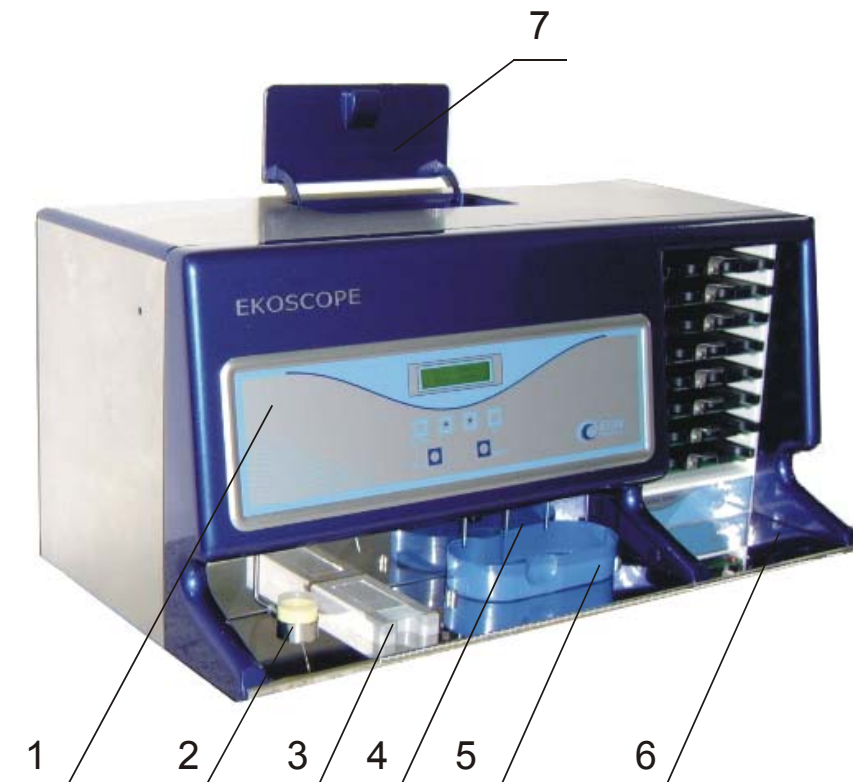
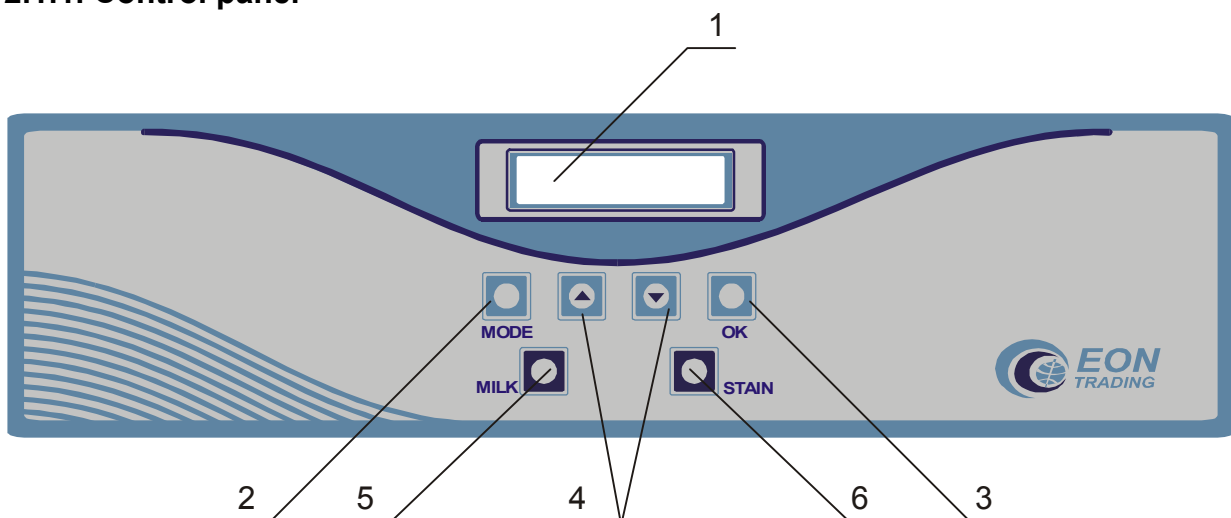

Fig. 1
Fig. 2
Pour the milk sample into the mug (approximately 2/3 from the volume of the mug) and place it on fig.1 – pos.2. (Optional: two smears may be prepared and examined for each milk sample).
Put a slide in fig.1 – pos.3. Mark the margin slide with a pencil. Press the short button **MILK** – fig. 2 – pos. 5. The needles will take a 0.01 mL milk portion and smear the milk at an area of size 10 mm x 10 mm.
Put the **Dish** in **Ekoscope film staining section** – see fig. 1 pos. 4 and 5.
Wait until a drop of solution falls from all of the nozzles and then press the same button to stop the procedure. Put a panel with already dried smears up in staining position and press button **STAIN (fig. 2, pos.6)**
2. Put the **Dish** in **Ekoscope film staining section** – see fig. 1 pos. 4 and 5.